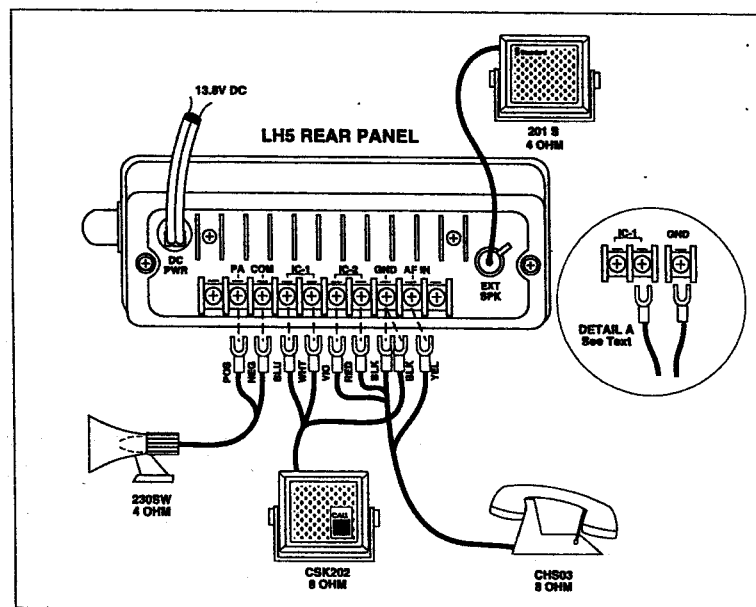

Figure 5. Electrical Connections
Refer to Figure 5 and complete the following steps for the electrical installation:
6. See Detail A in Figure 5. If a 2-wire speaker is connected to IC-1 or IC-2; one wire should be connected to the right-hand terminal and the second wire should be connected to the GND terminal, *not the left-hand IC terminal!* If you connect one of the wires of a 2-wire speaker to a left-hand IC terminal, the Loud Hailer will beep continuously when turned on.